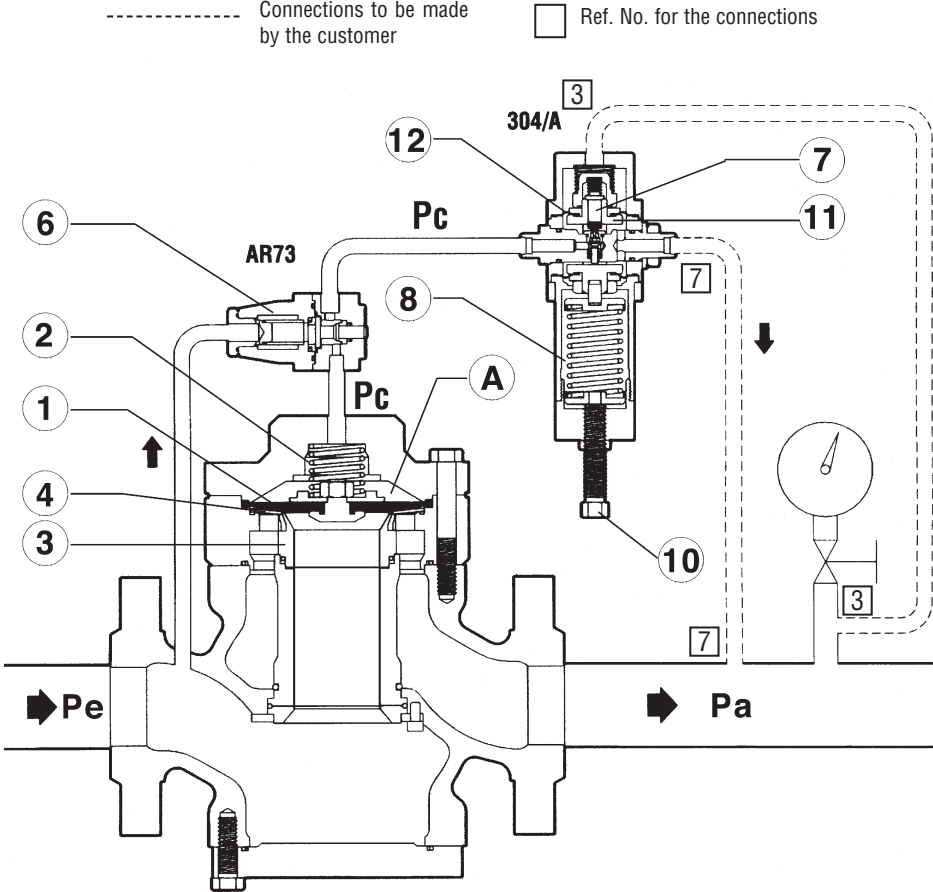

Fig. 1
1.2 OPERATION (FIG. 1)
The operating principle of the pilot has already been briefly illustrated in par. 1.2. Variation of the setting is obtained by turning the adjustment screw 10 (fig. 1). Clockwise rotation leads to an increase in the regulated pressure while anticlockwise rotation leads to a decrease. When the desired setting has been reached, the adjustment screw can be blocked by means of the provided nut 9.